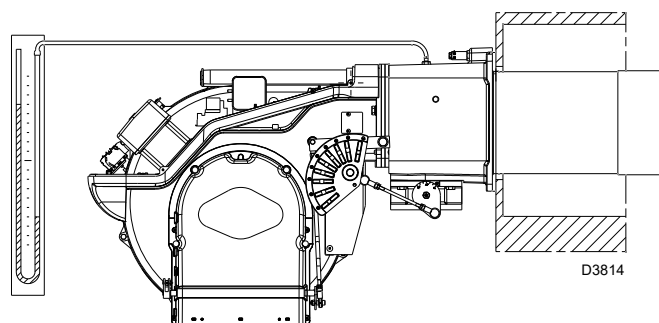

Fig. 27
- Fit a U-type pressure gauge or a differential pressure gauge (Fig. 27), with socket (+) on the gas pressure of the pipe coupling and (-) in the combustion chamber.
The arrival of gas to the sleeve is indicated by the U-type pressure gauge (Fig. 27 on page 24).
A rough indication can be obtained from Tab. H on page 21, just read the gas pressure on the "U" pressure gauge (see Fig. 27 on page 24) and follow the indications.